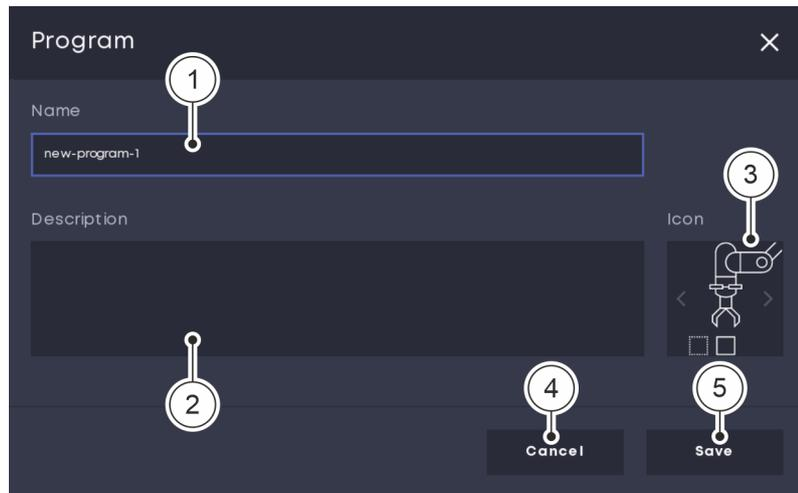

Fig. 26 Creating a new program
- ▶ The menu shown in Fig. 26 appears.
02. In the 'Name' and 'Description' fields, enter the desired name and the description of the program function Fig. 26/(1) + (2).
03. In the 'Icon' field, select the desired program icon by clicking on the arrows Fig. 26/(3).
04. Click the 'Save' button to create the program Fig. 26/(5).
Otherwise, click the 'Cancel' button to return to the main screen Fig. 26/(4).